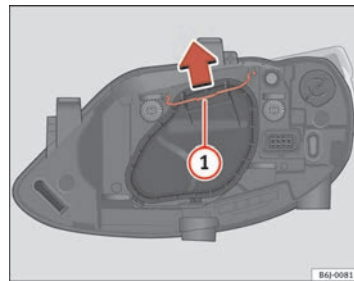

Fig. 143 Dipped beam/main beam, single headlight
- Remove the loop ⇒ page 220, fig. 143 ① in the direction of the arrow and remove the cover.